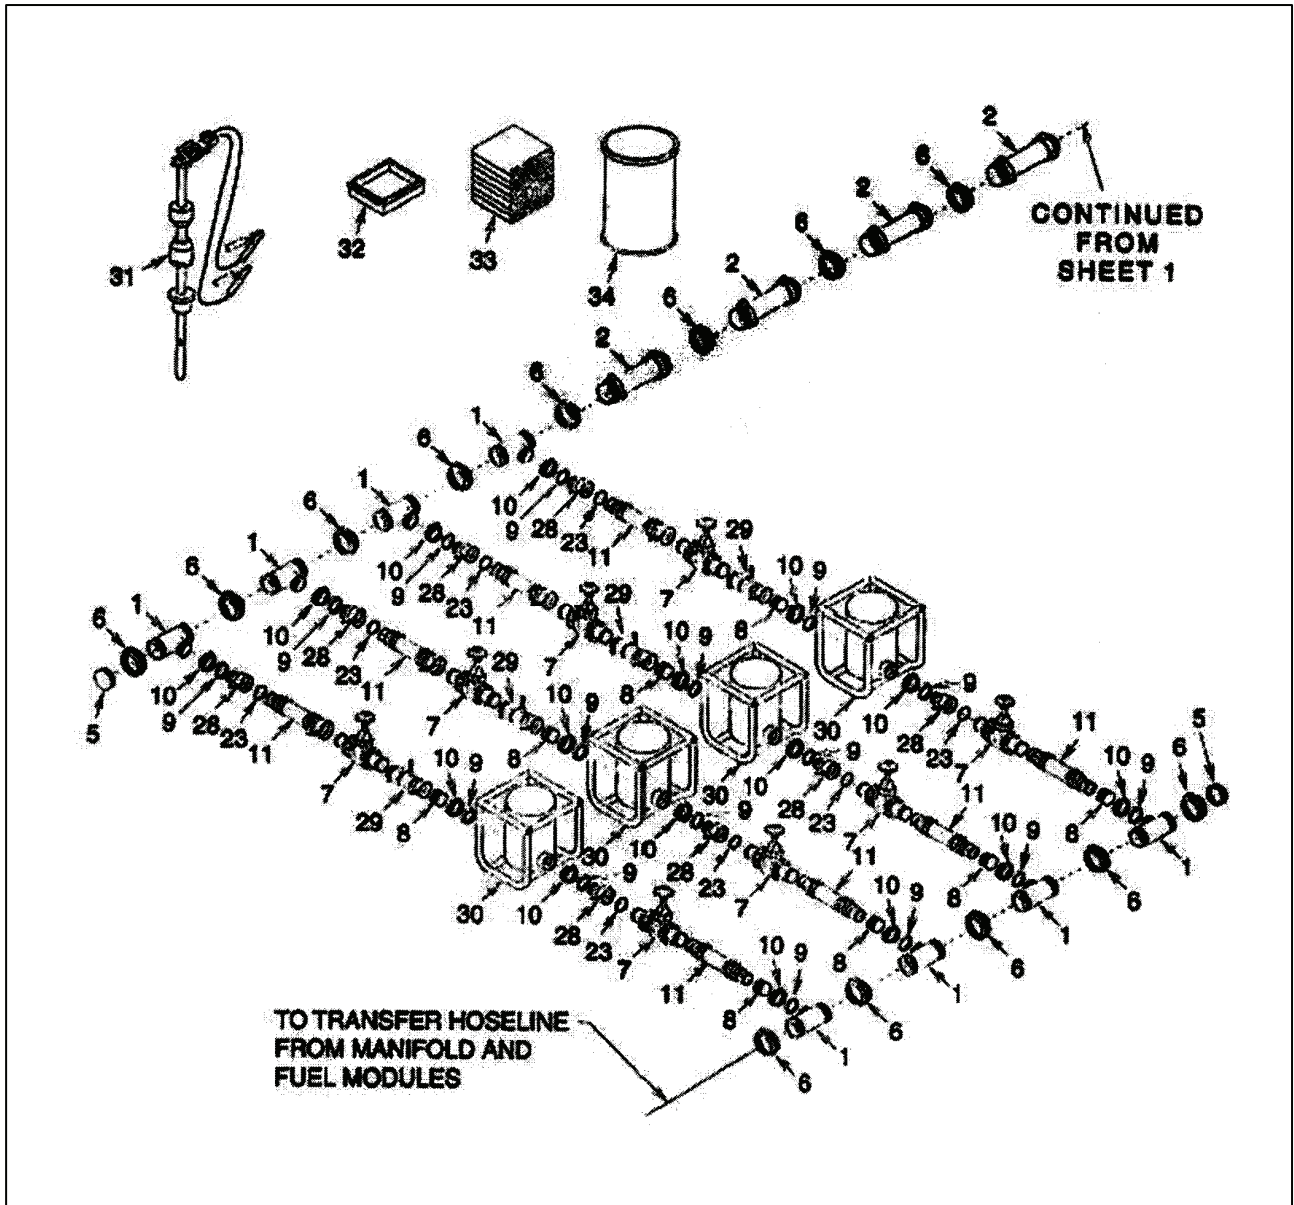

Figure 3
- (1) Connect 4-inch x 25-foot hoses (11) cam lock to Tees (1) using coupling clamps (10), gaskets (9), coupling adapters (28), and gaskets (23).
- (2) Connect 4-inch gate valves (7) to hoses (11).
- (3) Connect water detection kit adapter (29) to gate valve (7)
- (4) Install, service, and prepare the filter separators (30) in accordance with TM 5-4330-211-12.
- (5) Connect filter separators (30) to water detection kit adapters (29) using couplings (8), gaskets (9), and coupling clamps (10).
- (6) Connect 4-inch gate valves (7) to filter separators (30) using coupling clamps (10), gaskets (9), coupling adapters (28), and gaskets (23).
- (7) Connect 4-inch x 25-foot hoses (11) cam lock to gate valves (7).
- (8) Connect hoses (11) to tees (1) using couplings (8), gaskets (9), and coupling clamps (10).
- h. Locate and install ground rod (31).
- i. Place eight each, drip pans (32), two each, oil absorbent material (33), and two each, storage drums (34) where they will be available for use when needed.
10. Assemble tanker truck receipt manifold (Figure 3).
- a. Place the four unloading points (12), (10), (9), (13), (14), (15), and (16).
- b. Start in the center of the unloading zone by assembly of the suction manifold. Use two 6-inch tees (4) and four 6-inch gate valves (3), position the manifold far enough off the access road to allow that the 4-inch suction hoses to reach the tanker trucks.
- e. Connect 6-inch x 6-inch x 4-inch tees (1) to the 6-inch suction hoses (2) to start each unload point.
- g. Using a cam lock to double groove adapter, connect a 4-inch gate valve onto each 6-inch x 6-inch x 4-inch tee followed by 4-inch suction hose (9).
- h. Connect 4-inch butter fly valves and a cam lock reducer (14).